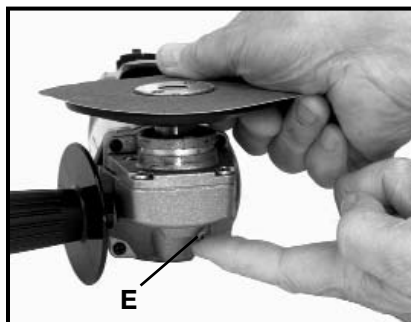

Fig. 10
5. Depress spindle lock pin (E) Fig. 10, and hold while rotating backup pad clockwise by hand until spindle lock engages.
6. While continuing to hold spindle lock pin engaged, grasp the backup pad and abrasive, and rotate clockwise to tighten (see Fig. 10).